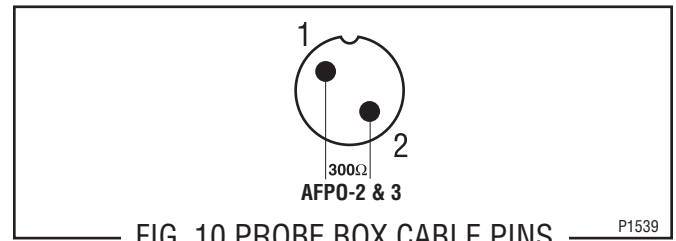

FIG. 10 PROBE BOX CABLE PINS
4. Check the resistance across the box cable pins, see Fig. 10.
5. With the probe box switch in the "LOW" position check the resistance across the pins, refer to Fig. 10.